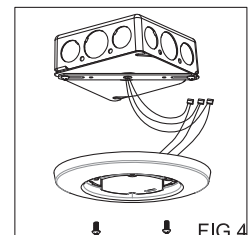

FIG.4
6. Align two holes in the fixture with Outlet box. Use screws to attach one to another. Do not over tighten. (FIG.4)